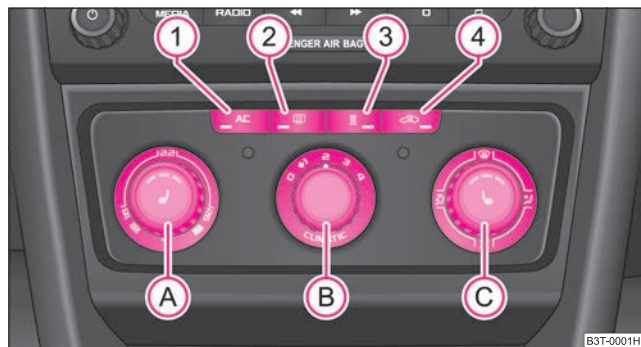

Fig. 110 Climatic: Control elements
The cooling only operates if button  ⇒ page 97, fig. 110  is pressed, and the following conditions are met:
- Turn the control dial (A) ⇒ fig. 110 to the right in order to increase the temperature.
- Turn the control dial (A) to the left in order to increase the temperature.
- Press the button (AC) (1) ⇒ fig. 110. The warning light lights up in the button.
- When you again press the switch (AC), the cooling system is switched off. The warning light in the button goes out.
- Press the button  (4) ⇒ page 97, fig. 110 the warning light lights up in the button.
The recirculated air mode is switched off automatically if the air distribution control  is in position  ⇒ page 97, fig. 110. You can also switch recirculated air mode on again from this setting by repeatedly pressing button .
You can set the air supply to the individual air outlet vents using the control dial  ⇒ page 97, fig. 110. The air outlet vents **2**, **3** ⇒ page 99, fig. 111 and **5** ⇒ page 99, fig. 112 can also be closed and opened individually.
Unwarmed or cooled air will flow out of the air outlet vents according to the setting of control dial  ⇒ page 97, fig. 110 and the atmospheric conditions. ■